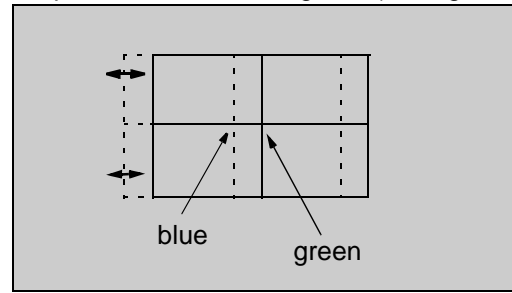

Figure 51. **B-STATIC adjustment**
38. Adjust B-STATIC so that the center of blue overlaps with the center of green (see figure 51).